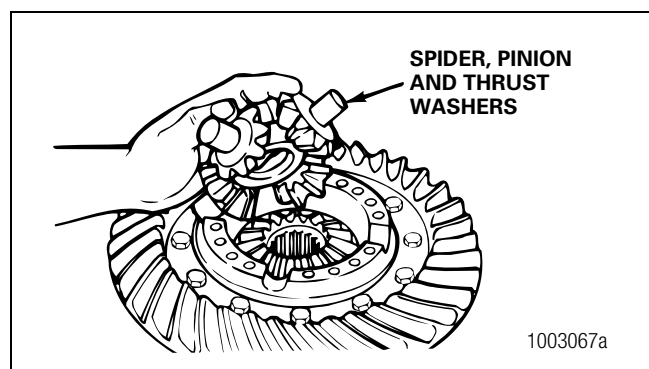

Figure 5.39
- Install the spider or cross, differential pinions and thrust washers into the flange case half. Figure 5.39.